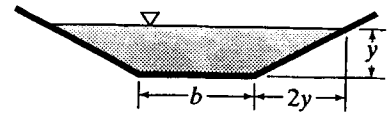

Figure P10.16
- 10.19 Refer to Fig. P10.16. (a) If the discharge in the canal ($n = 0.028$) is to be $6 \text{ m}^3/\text{s}$ while the depth y is 1.8 m and the velocity is not to exceed $50 \text{ m}/\text{min}$, what must be the minimum bottom width b and the maximum drop in elevation per km? (b) Compare this with the depth and bottom width for maximum efficiency when using the same side slopes, roughness, bed slope, and discharge.